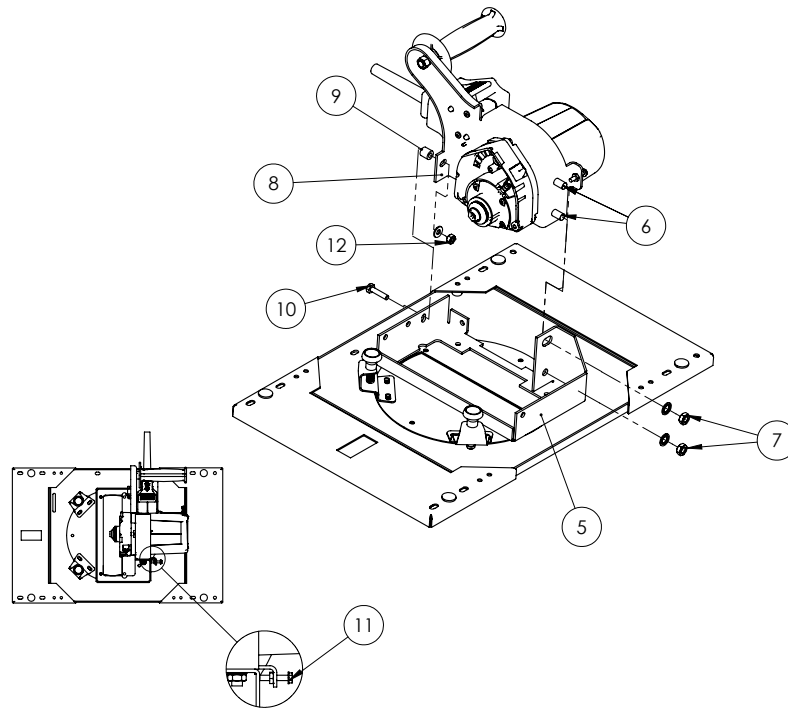

Figure 17: Mounting the Saw Motor (C4, C5, H4, H5 & H6)
2. Mount the motor to the carriage by inserting the studs (Fig. 17, #6) on the saw motor through the holes in the turntable (#5). Install the washers and nuts (#7), and hand-tighten only.
3. The bracket (Fig. 17, #8) that extends from the saw handle has a single hole. Place the spacer (#9) between the bracket on the turntable and the bracket on the saw handle. Align that hole with the hole in the turntable as shown in Fig. 17, and insert the bolt (#10). Install the nut (#12), and hand-tighten only.
4. Make sure the bolt (Fig. 17, #11) on the saw motor plate is flush against the turntable bracket as shown, to ensure the saw is square. This bolt (#11) is factory-set and does not require adjustment when the tool is being installed.
5. **Tighten the two bottom nuts first** (Fig. 17, #7), and the top nut (#12) last.